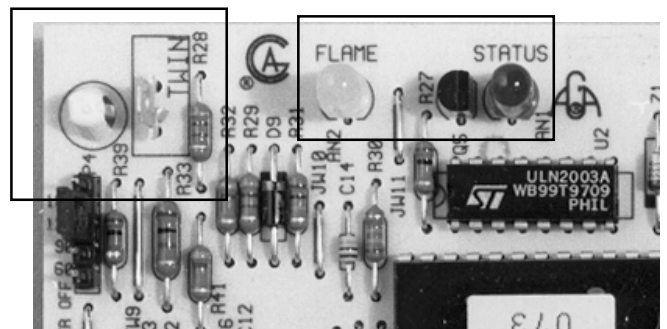

Figure 41.
- F. Diagnostic Lights - the diagnostic light feature is to aid the service technician in identifying the nature of the problem. See Figure 41.